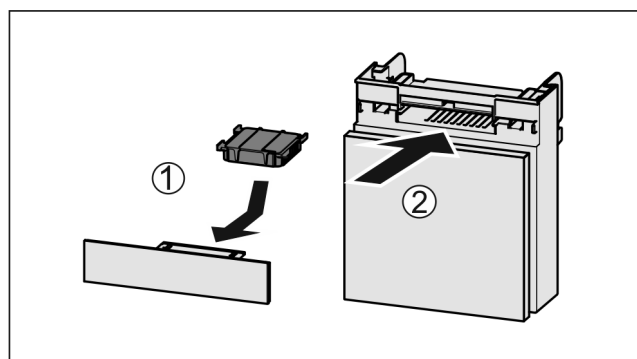

Fig. 129
- ▶ Insert the carbon filter as shown in the diagram *Fig. 129 (1)*.
- ▶ Push the compartment in *Fig. 129 (2)*.